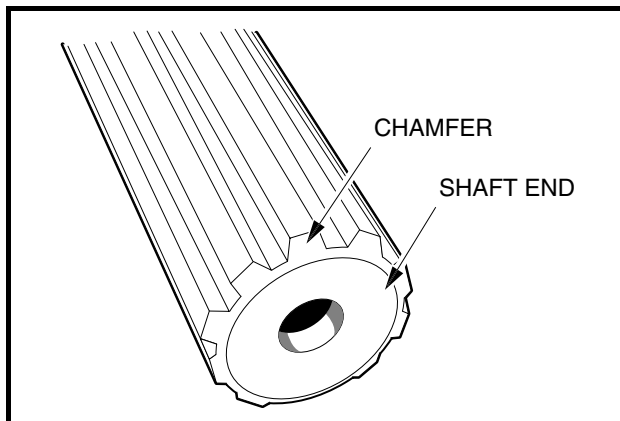

Figure 15-15 Clean Chamfer and Input Shaft End
- 2.6. Check the chamfer and end of the input shaft to ensure these areas are completely clean of grease as shown (**Figure 15-15, Page 15-12**).